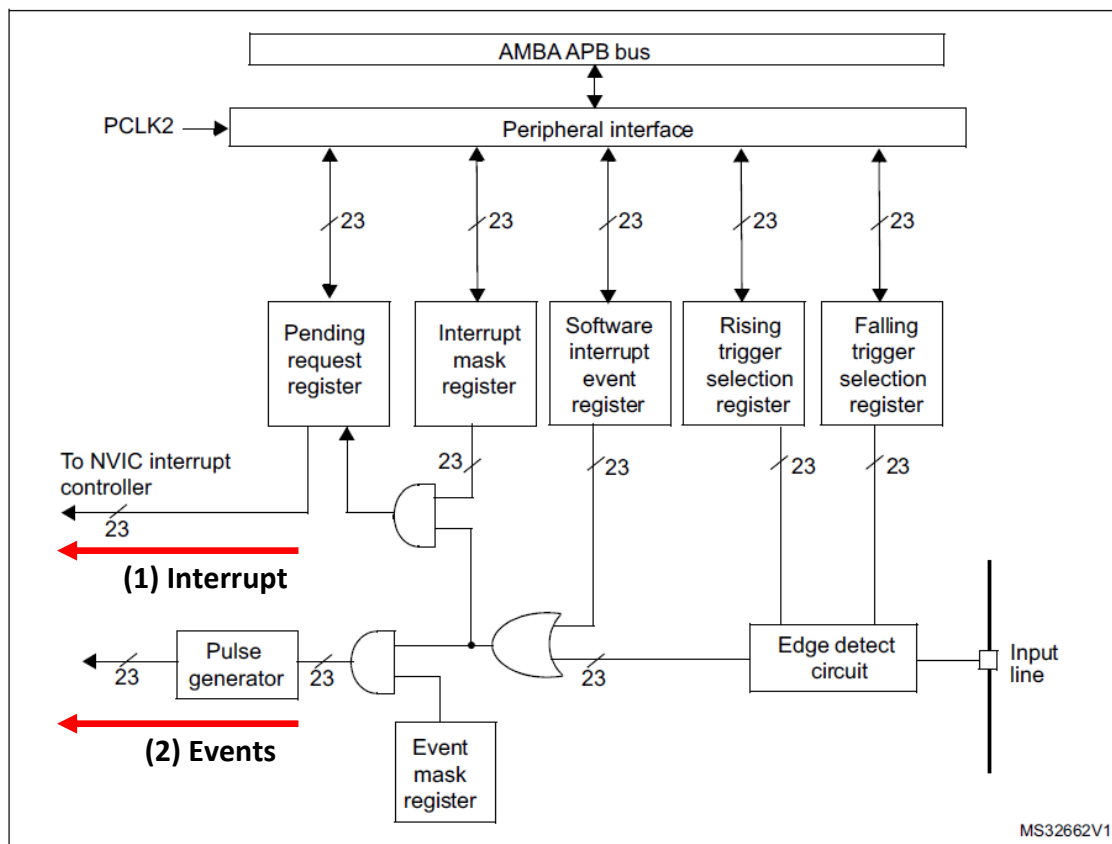

Figure 43: Interrupt/Event controller block diagram
In the block diagram of the Figure 43, we can see that there are two main streams, the interrupt (1), and the events (2):